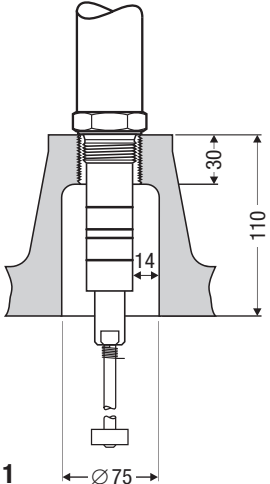
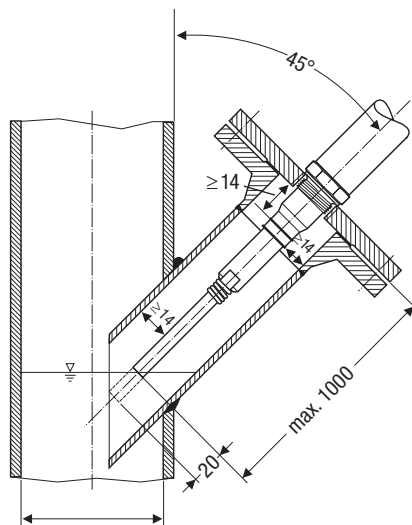

Fig. 11
Fig. 17
- Provide a min. spacing of 14 mm between electrode and earth (flange, boiler wall), **Fig. 11, Fig. 17**
- If the level electrode **NRG 111-11** is to be installed in a flanged standpipe DN 50 use only the GESTRA hat flange! **Fig. 11**
- When using the level electrode **NRG 111-11** take the pH limit value (10) and the max. admissible electrical conductivity (100 µS/cm at 25 °C) into consideration.
- When mounting the electrode laterally make sure that the inclination angle does not exceed 45° and that the length of the electrode rod is limited to 1000 mm. **Fig. 17**